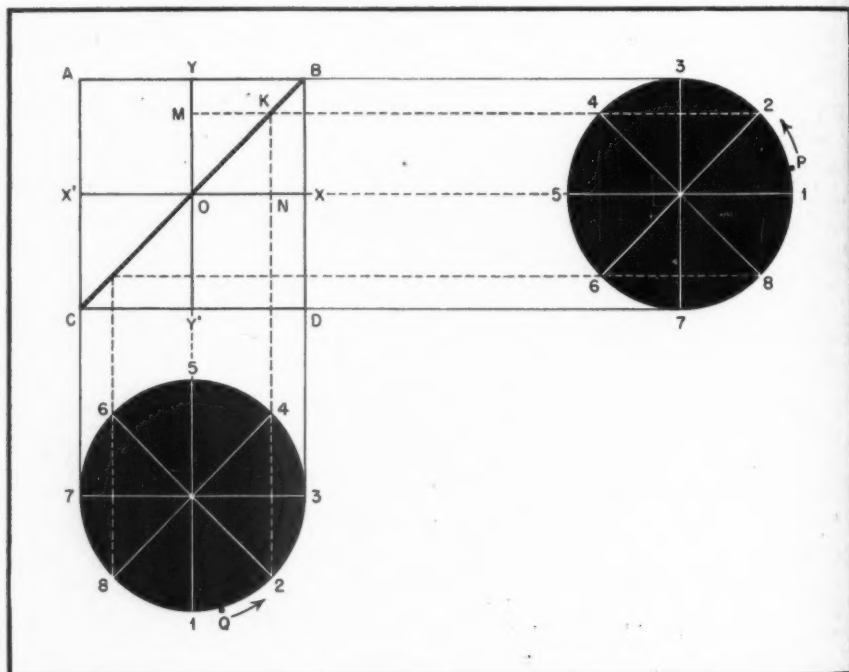

Fig. 1. Phase difference—0. Result: Line BOC.
Consider Fig. 1. The points P and Q describe simple harmonic motions within their respective orbits. Both move with the same angular velocity ω . The instantaneous projection of P is M and of Q is N . Both M and N execute simple harmonic motion along their respective axes YOY' and XOX' . To find the instantaneous value of the resultant point K , draw a perpendicular to YOY' through M , and another perpendicular to XOX' through N . The point of intersection of the two perpendiculars is the required point K . The numerals around the two circular orbits indicate the relative positions of P and Q at any instant and are therefore an indication of the phase difference.
The locus of the point K in Fig. 1 is the line BOC . It is obvious from the arrangement of the numerals that the phase difference is zero. When M is at O , moving in the positive direction of OY , N is at O moving in the positive direction of OX .
which is an ellipse provided a does not equal b and ϕ is not 0 or π . Eq. (5) is the locus of point K in Fig. 1 for any arbitrary values of a , b and ϕ ; it is also the fundamental equation of this paper.
This is the equation of the straight line BOC in Fig. 1. It is easily seen that the slope of this line cannot be negative and that since it is proportional to b/a it is independent of the phase angle.